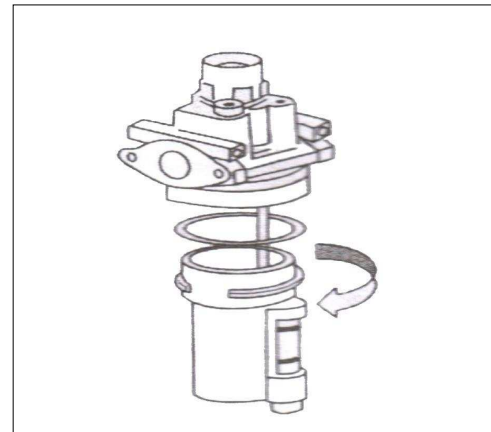

Fig. 27
- Periodically check the lubrication oil level in the oil fog device. If the oil level lower than the oil scale, please feed in the SAE30 lubrication oil in time (Fig. 27)